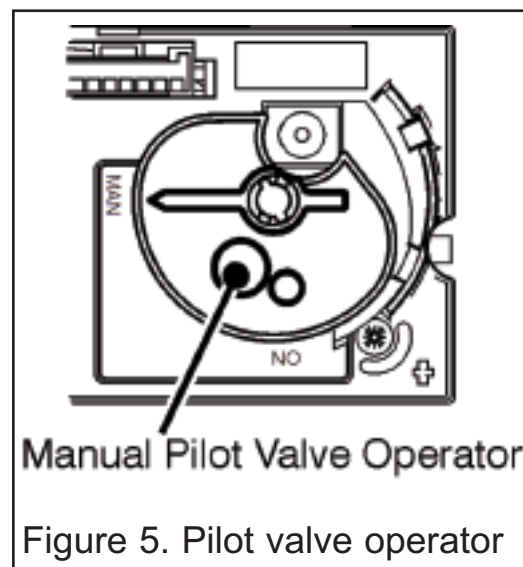

Figure 5. Pilot valve operator
3. The 'manual knob' is the knob on the right hand side (See figure 5). Turn this knob to the 'OFF', fully clockwise  position.
4. Wait five (5) minutes to clear out any gas. Then smell for gas, including near the floor. If you smell gas STOP! and follow the safety information below.
6. With the 'manual' knob in 'MAN' position a manual pilot valve operator is accessible (See figures 5).
- Fully push down the manual pilot valve operator using the end of a pencil or similar and hold in, to start pilot gas flow. Immediately light the pilot with a match, while continuing to hold in the manual pilot valve operator for about ten (10) seconds after the pilot is lit. Release manual pilot valve operator. If pilot does not stay lit, repeat steps 2 through 7.
3. Remove the receiver top cover (See figure 5)